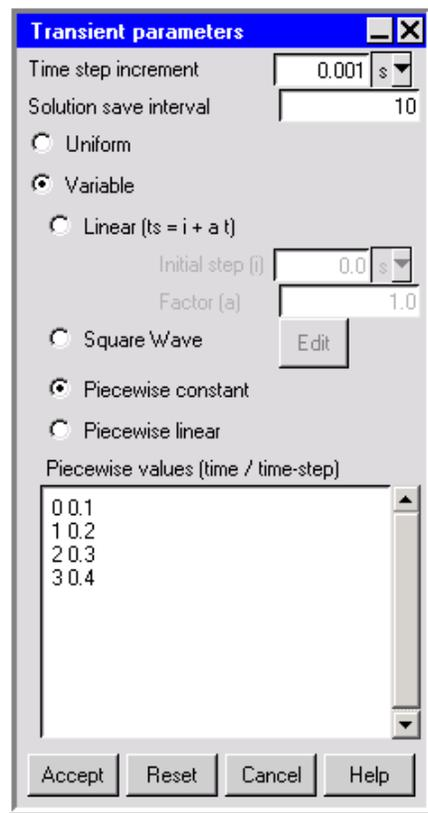
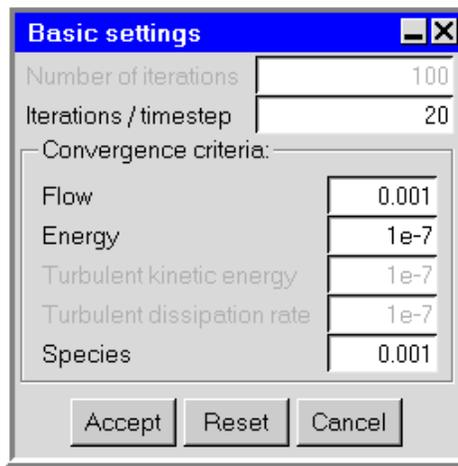

Figure 20.1.2: The Transient parameters Panel
Figure 20.1.7: The Basic settings Panel for a Transient Simulation
3. To edit the default transient parameters (if required), click on Edit parameters. This will open the Transient parameters panel shown in Figure 20.1.2.
9. Set the maximum number of iterations to be performed per time step under **Iterations/timestep** in the **Basic settings** panel (Figure 20.1.7). To open this panel, double-click on the **Basic settings** item under the **Solution settings** node in the **Model manager** window. If the **Convergence criteria** are satisfied before this number of iterations is performed, the solution will advance to the next time step. The default value of 20 iterations/time step should be acceptable for most cases. If you find that the solution is not converging at each time step, you can increase the **Iterations/timestep** value and/or decrease the size of the **Time step increment** specified in the **Transient parameters** panel (Figure 20.1.2).
Files will be saved at the frequency specified next to **Solution save interval** in the **Transient parameters** panel (Figure 20.1.2). A separate file is saved for each time step for which data are saved.